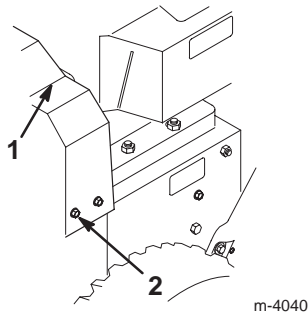

Figure 23
- Remove the 3 bolts that hold the belt cover in place and set the cover aside (Fig. 23).
3. Remove the 3 bolts that hold the belt cover in place and set the cover aside (Fig. 23).